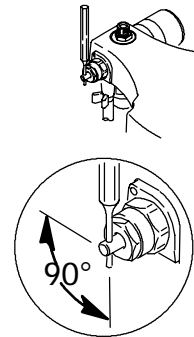

Fig. 5
8. Fig. 5. Rotate valve stem with 3/32 pin punch until hole is perpendicular.